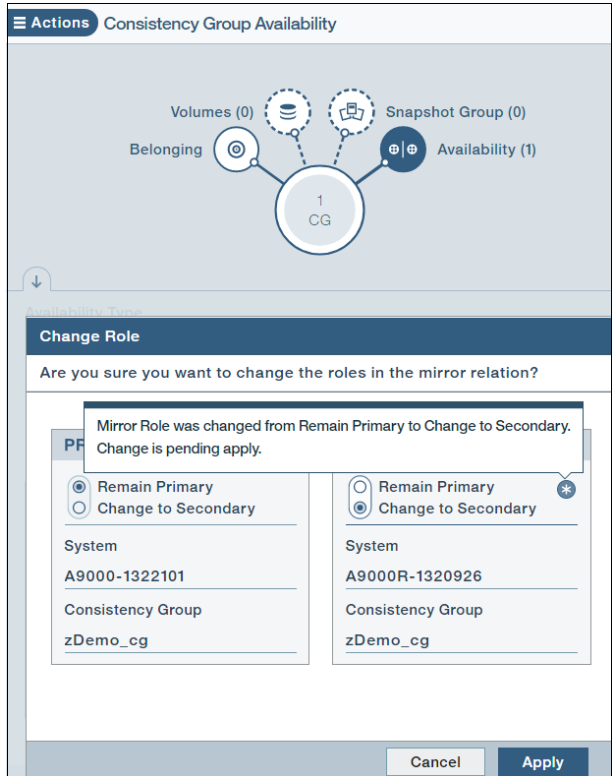

Figure 4-52 Change role of original production system to secondary
2. Click the link under **Role Conflict**, in Figure 4-51 on page 114, to change the roles. This action brings up the role change view. Because you are ready to copy the changes made while mirroring was down back to the local (original production) site, select **Change to Secondary** on the local site as shown in Figure 4-52. Keep track of which system is local (original production) and remote (disaster recovery) site. Click **Apply** to submit the change.